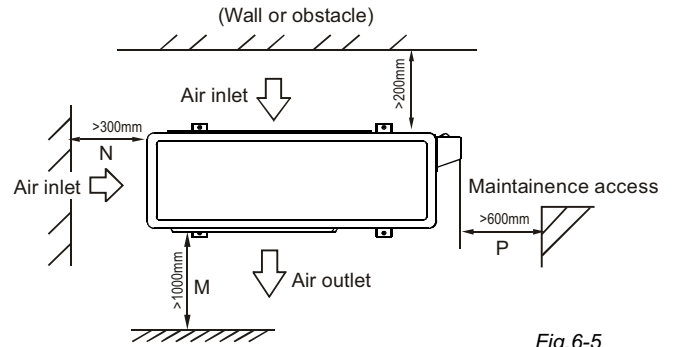

Fig. 6-5
- The minimum distance between the outdoor unit and walls/obstacles described in the installation chart does not correlate directly to installations in enclosed spaces. In these cases at least two of the three sides should remain open (M, N, P). (Refer to Fig. 6-5)